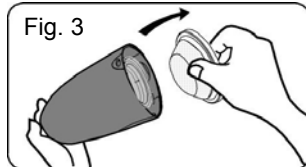
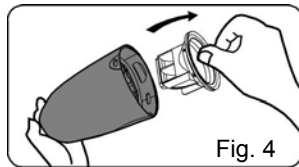

Fig. 3
Fig. 4
2. Verify that the dust cup filter and the separator housing are inside, then re-attach the dust cup container to the wet/dry hand vacuum. (Fig. 3 & Fig. 4)